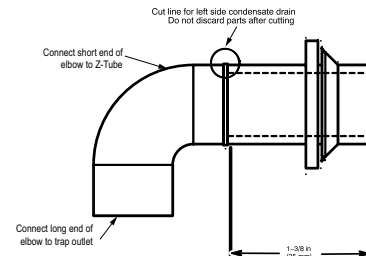

Fig. 18 – Modify Rubber Drain Elbow
3. The Z-pipe is connected to the condensate trap and the outside of the furnace by modifying the formed rubber drain elbow as shown in Fig. 18.
4. Remove the formed grommet from the rubber drain elbow by cutting the elbow along the vertical line located about 1-3/8 in. (35 mm) away from the formed grommet. See Fig. 18. **DO NOT DISCARD THE FORMED GROMMET OR THE RUBBER ELBOW.** Both of these pieces will be used.
TIP FROM CONTRACTORS: When installing the furnace horizontally, use the entire drain elbow (that is, do **NOT** cut as shown in Fig. 18 to connect the trap to the drain line. This helps to prevent bumps and shocks to the drain line from damaging the furnace drain trap. Avoid misalignment of the drain pipe which may cause kinks in the elbow.